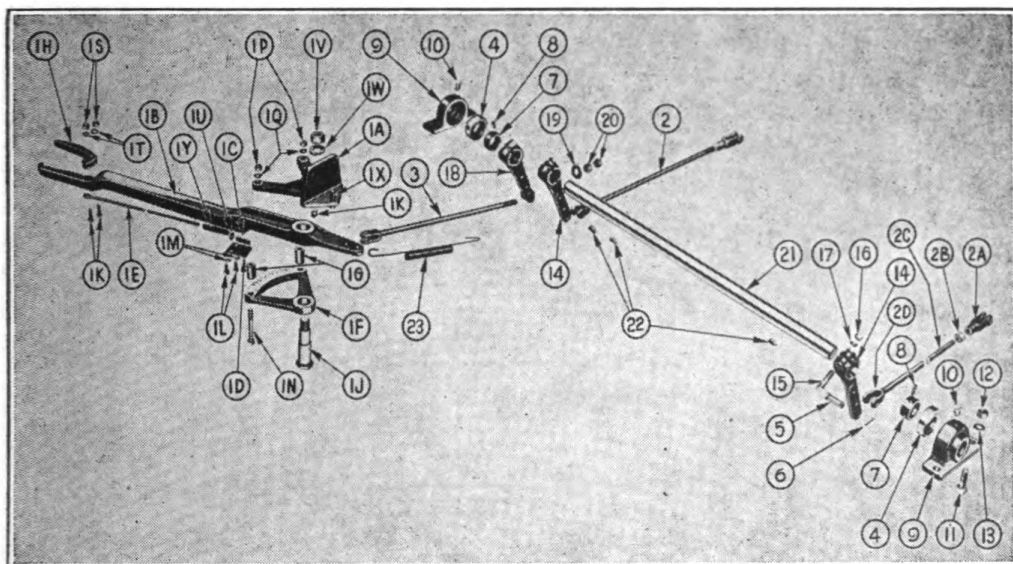

FIGURE 47. HAND PARKING BRAKE—EXPLODED.
20. **ADJUSTING HAND PARKING BRAKE** (Fig. 47).—*a.* Usually the hand parking brake requires little attention, the minor brake adjustment taking care of parking brake adjustments. However, when an adjustment is required, it consists, essentially, of shortening the brake rod.
21. **DISASSEMBLY OF CROSS SHAFT (Fig. 47).**—*a.* Disconnect the brake rods (2) and (2C) at the levers (14).
b. Remove nuts (20) from brake rod (3).
c. Remove the bolts (11) holding cross shaft journals (9) to frame, and lift the cross shaft assembly (21) out.
d. Loosen the three pinch bolts (15) in two levers (14) and (18).
e. Loosen set screws (8) in collars (7) and tap the two collars (7) and the three levers (14 and 18) off shaft (21).
22. **REASSEMBLY OF CROSS SHAFT (Fig. 47).**—*a.* Reassembly of cross shaft is in reverse of disassembly (paragraph 21, this section).
b. **NOTE:** It is very important that cross shaft works freely. Before coupling brake rods (2C, 2 and 3) test the operation of the cross shaft by moving the levers and cross shaft assembly forward and backward. If cross shaft binds, and a drag is felt, tap the journals (9) forward or backward until the cross shaft works freely.
d. Lubricate the cross shaft journals (9).
23. **REMOVAL OF LEVER ASSEMBLY (Fig. 47).**—*a.* Disconnect brake rod (3) from lever (1B).
b. Remove the three bolts (1X), uncouple spring (23) and lift the assembly off frame.